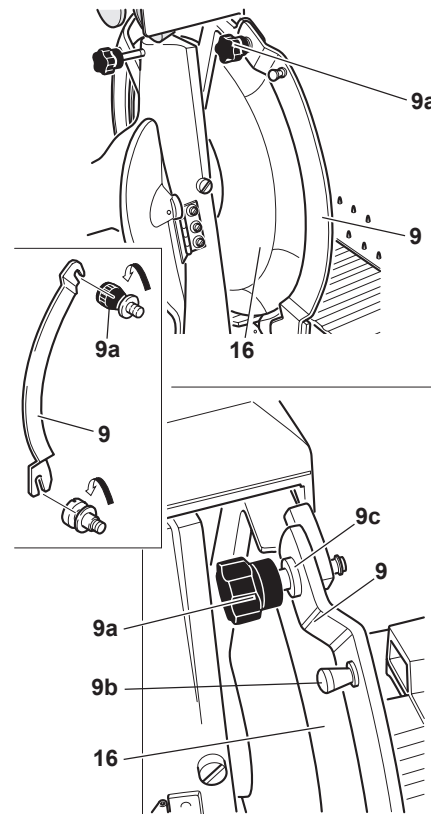

Figure 12-4
1. Loosen, but do not remove the top and bottom knobs (9a) on the knife guard (9) (Figure 12-4).
2. Use the knife guard thumb screw (9b) to lift the knife guard (9) up and to the left of the top and bottom knife guard spacers (9c).
3. Tighten the top and bottom knobs (9a) on the knife guard (9).